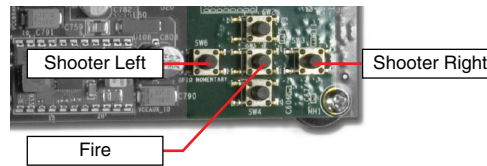

Figure 12: Game Application Controls
8. Press GPIO pushbutton SW6 to move the shooter object to the left. Press SW3 to move the shooter object to the right. Press SW5 to fire projectiles (Figure 12).